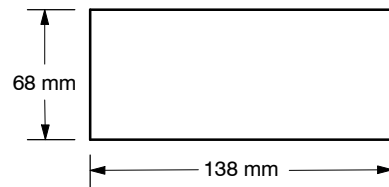

Figure 2-1 Dimensions for Cutting a Hole in the Mounting Surface
- Cut a 138 mm x 68 mm hole in the mounting surface (DIN 43700). See Figure 2-1.